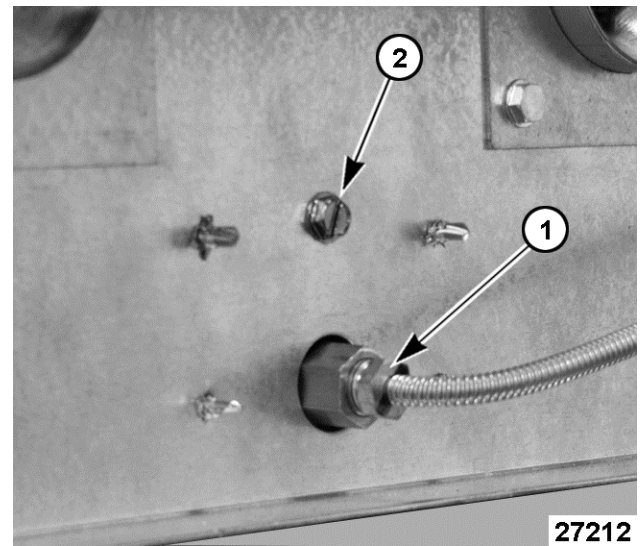
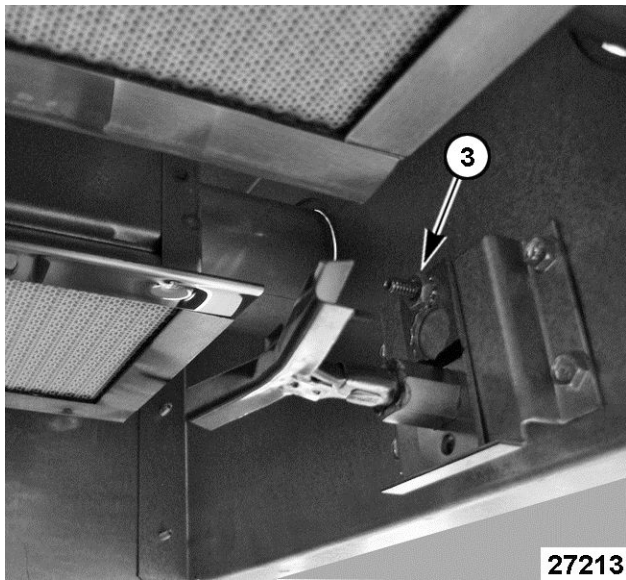

Fig. 10
Fig. 11
2. Disconnect compression fitting [1] Fig. 10 for pilot gas tubing.
3. Remove screw [2] Fig. 10 and lock washer nut [3] Fig. 11 securing pilot to mounting bracket.